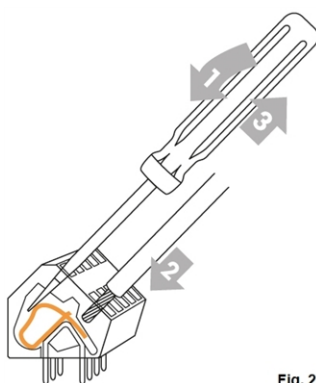

Fig. 2
3. Open the terminals with a fitting screwdriver (figure 2) and connect the electrical system to the controller.